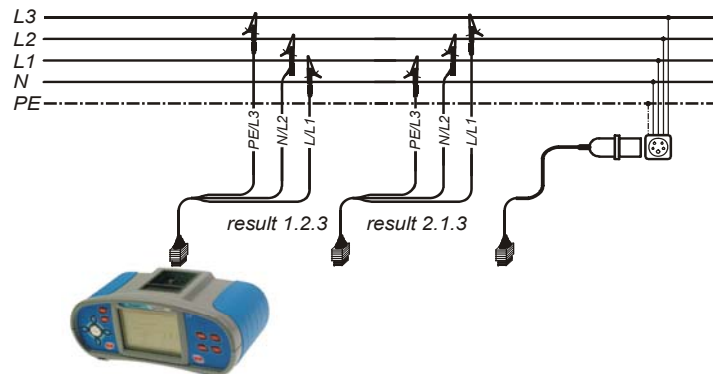

Figure 5.42: Connection of universal test cable and optional adapter in three-phase system
- ❑ **Connect** test leads to the tested object (see figures 5.42 and 5.43).